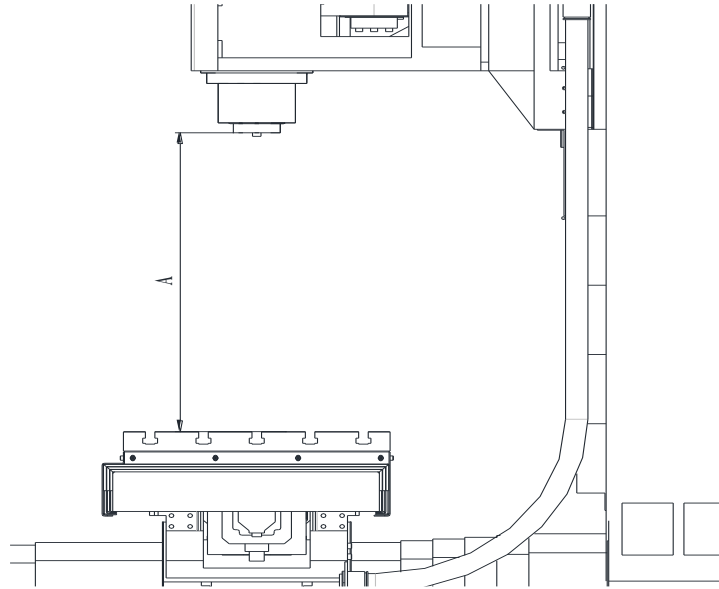

Figure 4.1.3(a) Zero point setting for Z-axis
4. As shown in Fig. 4.1.3(a), the position is the zero point of Z-axis. For detailed parameter settings, see electrical instructions.